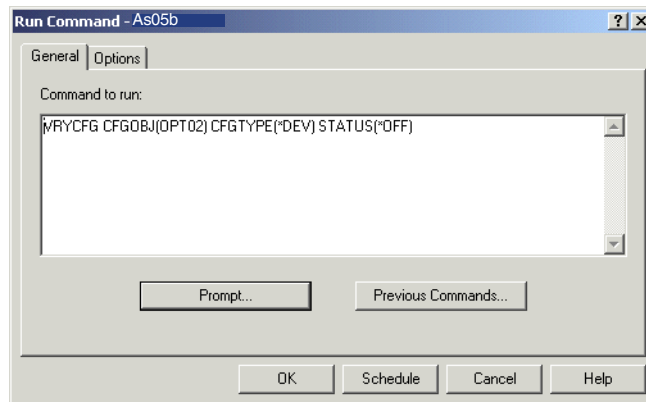

Figure 8-54 Run Command display
3. The Run Command display appears as shown in Figure 8-54.